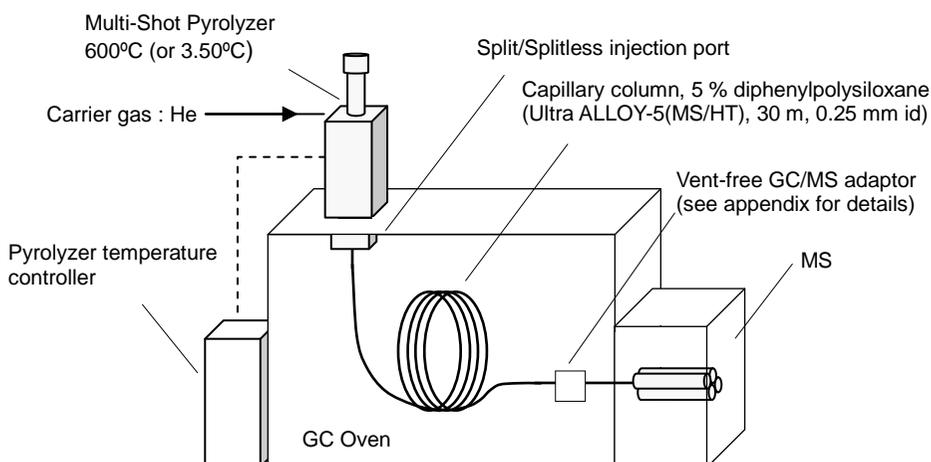

Fig. 9.9-1 Flow configuration in Py-GC/MS analysis
The general construction of a Py-GC/MS system is illustrated in Fig. 9.9-1. In section 9.2, the analytical conditions used for the library are described in detail. The sample cup is dropped (free-fall) into the center of the pyrolysis furnace which is at 600°C and the sample is instantly pyrolyzed. Pyrolyzates pass through the split/splitless injection port of the GC and ca. 1/100 of them reach the separation column. The pyrolyzates are separated by GC and detected by a mass spectrometer (MS). Using the Selective Sampler, only target additives can be analyzed by heating the furnace to the elution temperatures of the additives.
The analytical conditions under which the ADD-MS library data were obtained are shown in Fig. 9.9-1 Flow configuration in Py-GC/MS analysis. These are the same as those used for the data acquisition of the PyGC-MS library.